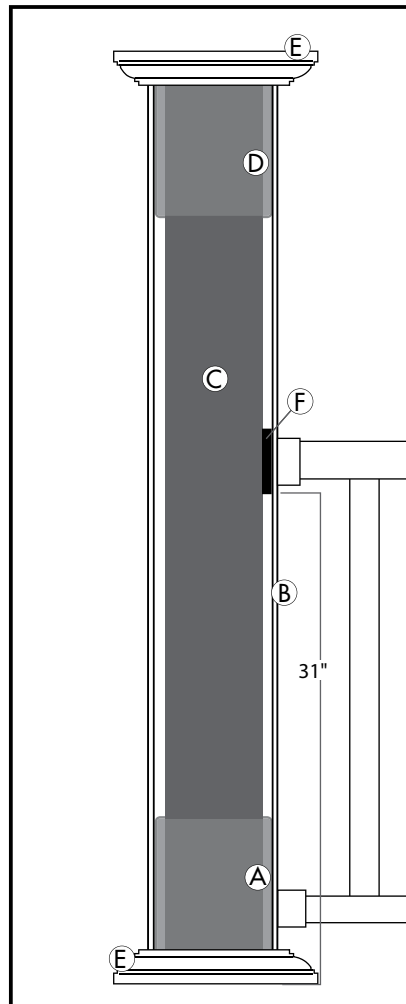

Figure 2
- 5.) Fasten (nail, screw) the top of the newly created wood spacer to the porch post (Figure 2).